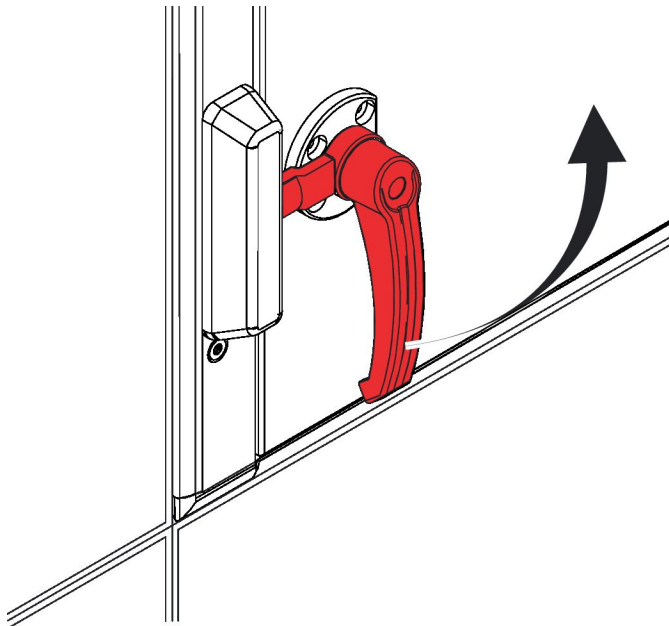

Fig. 52: Opening a door lock
- ▶ Turn the door handle anti-clockwise by 90° (Fig. 52).